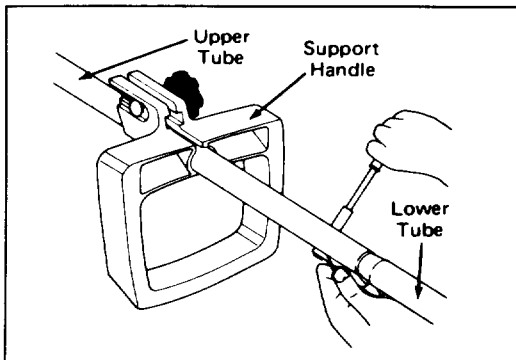

Figure 4
4. Secure with capscrew and locknut and tighten until all play between tubes is eliminated (Fig. 4).
6. Support handle may now be adjusted to desired operating position by sliding handle to desired height and tightening knob (Fig. 4).